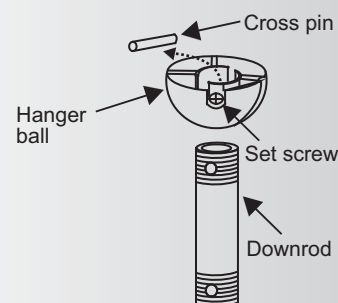

Fig. 7
Step 5. Remove the hanger ball from the downrod assembly by loosening the set screw, removing the cross pin and unscrewing the ball off the rod. (Fig.7)